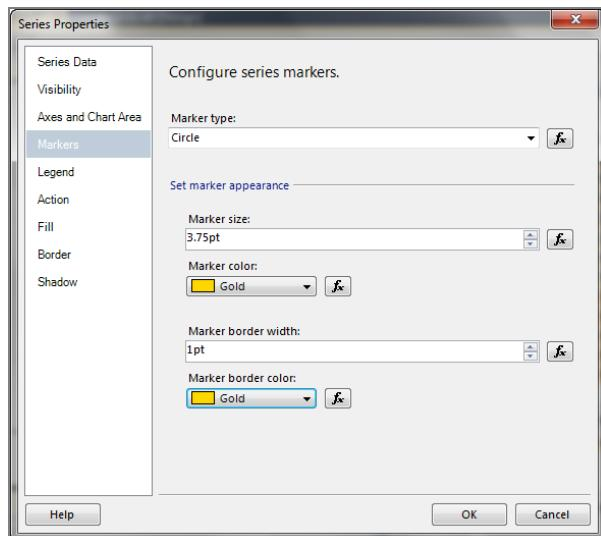

Figure 13-6
3. Select and configure a Marker type and Marker color on the Markers page, as shown in Figure 13-6.